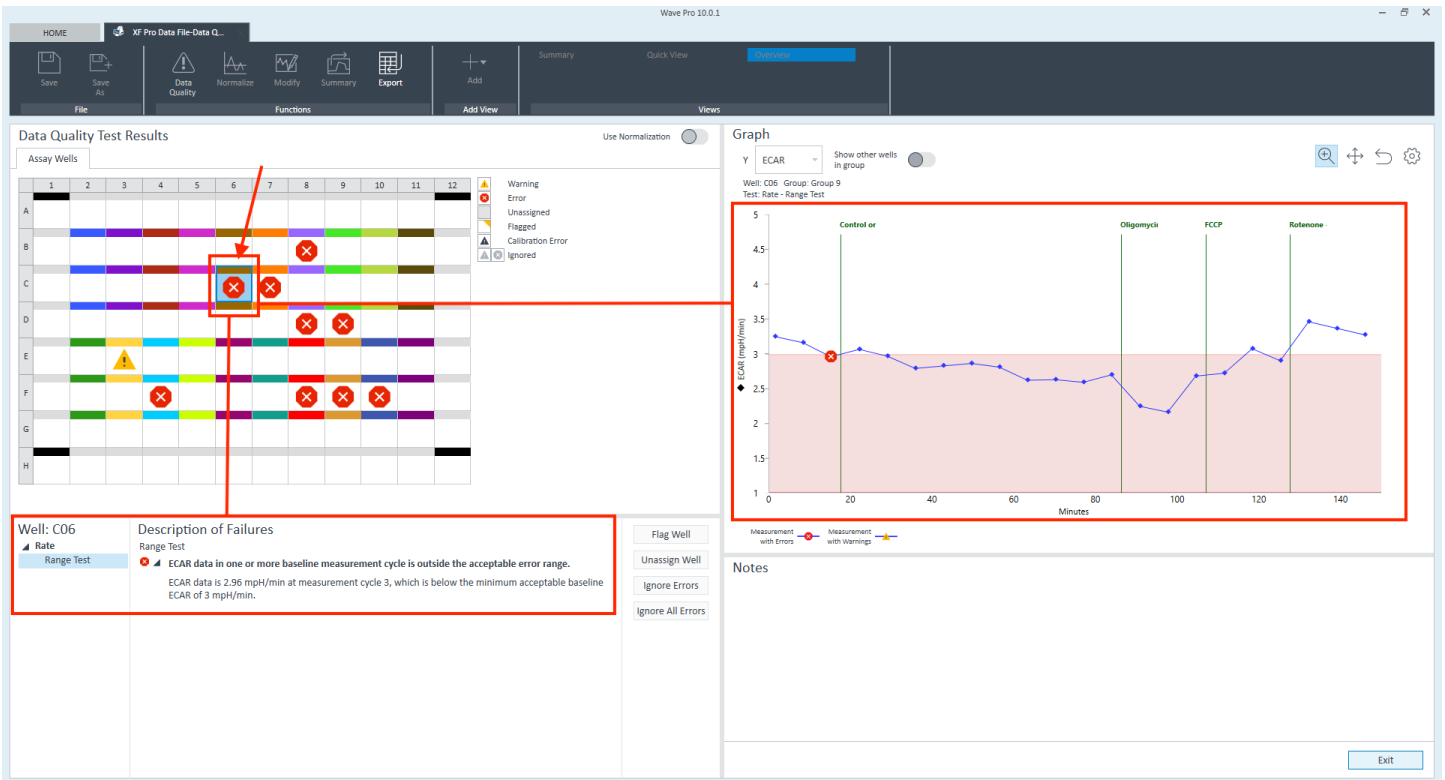

Figure 7. Kinetic graph data and a description of the problem.
6. When a well contains a warning or an error, click the well to display the kinetic graph data and associated warnings or error test descriptions below the plate map (Figure 7).